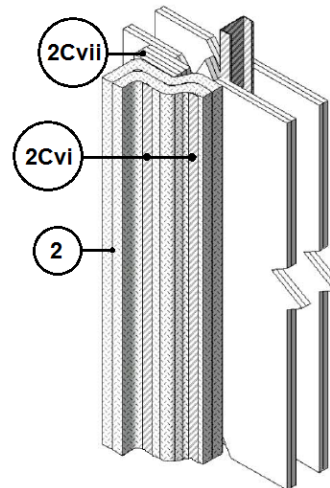

Figure 9. Wall Anchoring
- iv. Insulation Anchors: Floor/Ceiling Application – Use min. 16 GA, min. 1-1/2 in. wide steel sheet strips, and min. 1/4 in. diameter hex-head concrete anchors, spaced to match the longitudinal pin spacing shown in Figure 1. Position the floor/ceiling anchors nominal 4 in. from the outer surface of the duct insulation (Item 2). Extend the duct insulation min. 1-1/2 in. beyond the anchors. Reference Figure 9.
- vi. Gypsum Anchor Protection Boards: For installation onto steel stud and gypsum wall, use three layers of 6 in. wide, 5/8 in. Type X gypsum board strips mounted onto the gypsum wall under the duct insulation (Item 2) and adjacent to the wall anchors (Item 2Cvi) as shown in Figure 9. For vertical application, attach the gypsum wall anchor boards with #10 drywall Type G laminating screws spaced 24 in. oc. For horizontal application, attach the gypsum anchor boards with #10 drywall Type S screws into steel studs. Secure the insulation blanket (Item 2) to the gypsum wall anchor board using wall anchors (Item 2Cvi) consisting of min. 16 GA, min. 1-1/2 in. wide steel sheet strips and #10 drywall Type G laminating screws spaced to match the longitudinal pin spacing shown in Figure 1.